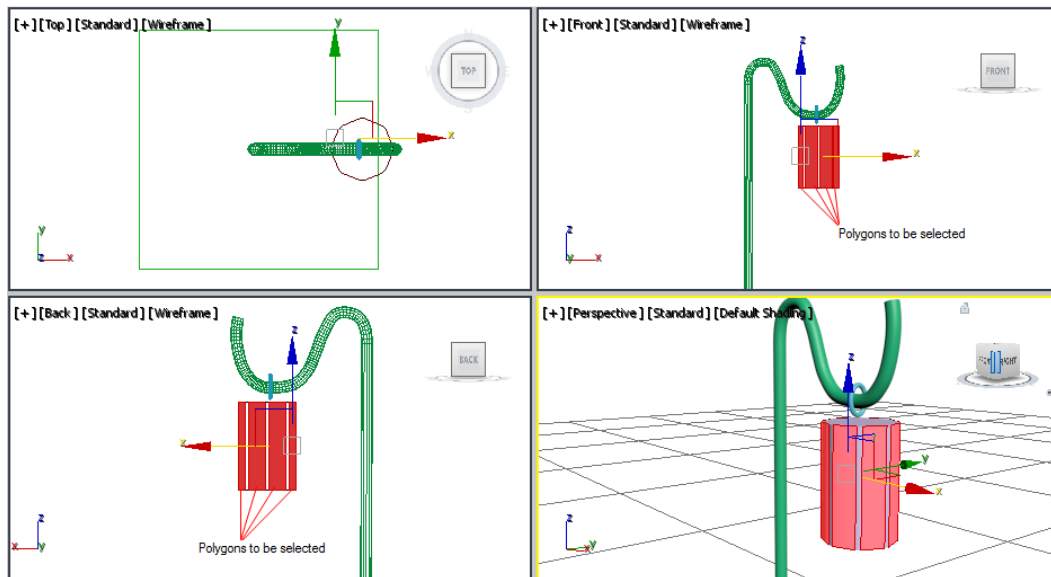

Figure 5-33 The selected polygons between chamfered edges
- Select the **Polygon** sub-object level from the **Selection** rollout and then select all polygons between the chamfered edges, as shown in Figure 5-33.